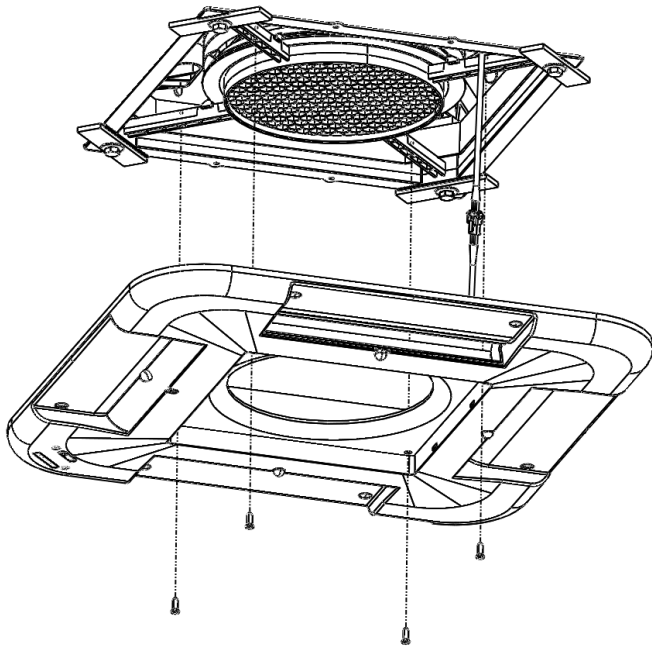

Figure 12 - Connect plenum cover to brace arms with 4 M4 x 20 metal threads
- Raise the plenum and engage the screw into its mating hole on the diagonal arm of the brace. Figure 12